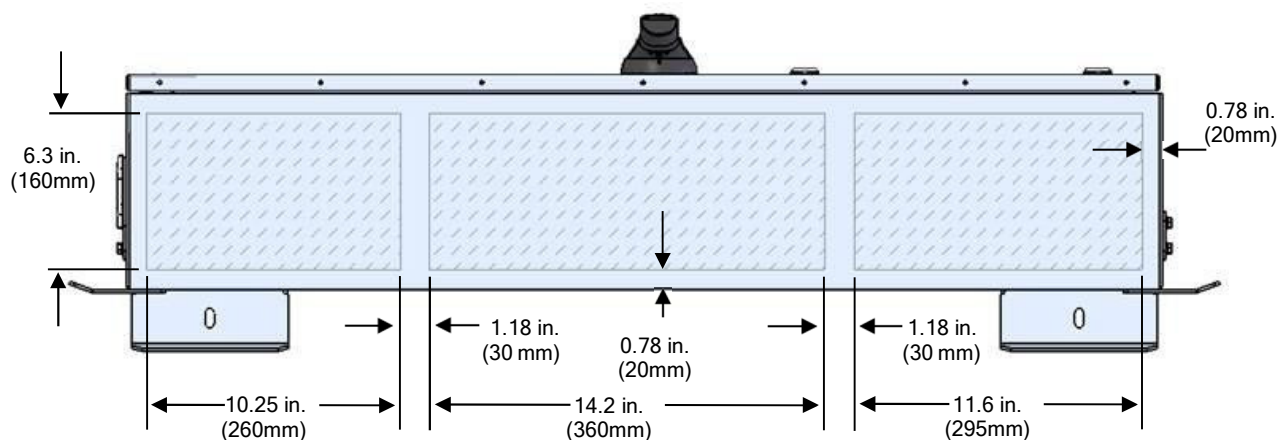

Figure 3.4 Bottom of the ACC1500-500 AC Combiner Showing Areas Available (shaded) for Conduit
- ✓ Note the target area for conduit connections for the combined AC Output Circuit, on the bottom face of the ACC1500-500 AC Combiner, as shown in **Figure 3.4**. Only the shaded areas indicated should be used.